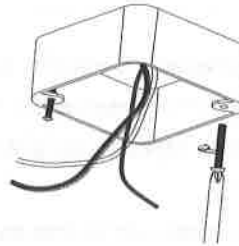
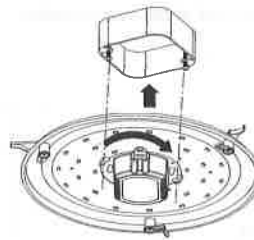

Fig 2
Fig. 4
3. Install the electrical box screws in the junction box (figure 2).
5. Put the fixture plate across the screw of the lock in figure 2, then rotate fixture plate clockwise and lock it tightly with the screw lock (figure 4).